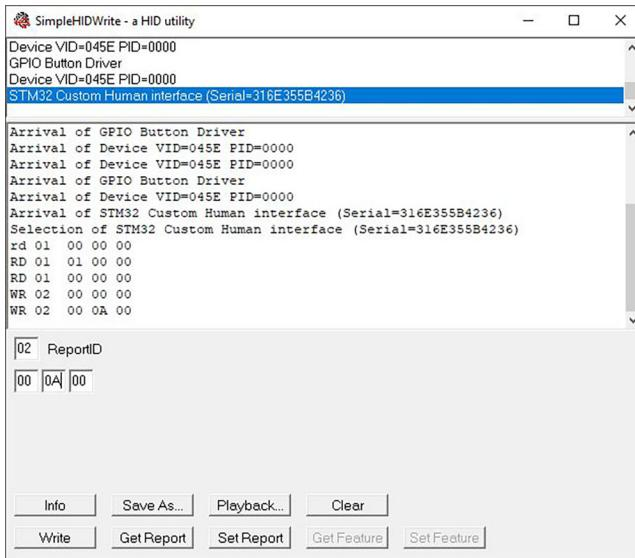

Figure 22: The SimpleHIDWrite utility
- **Windows:** if you just want to perform a test of the sample firmware, then you can consider the SimpleHIDWrite²⁹ tool by Jan Axelson. This tool works very easily. First, you need to select the device you want to exchange data with. The tool will automatically show as much text boxes as many bytes are in the report message. In our case, it will show one byte for the *Report ID* and three bytes for the rest of the message (see Figure 22).